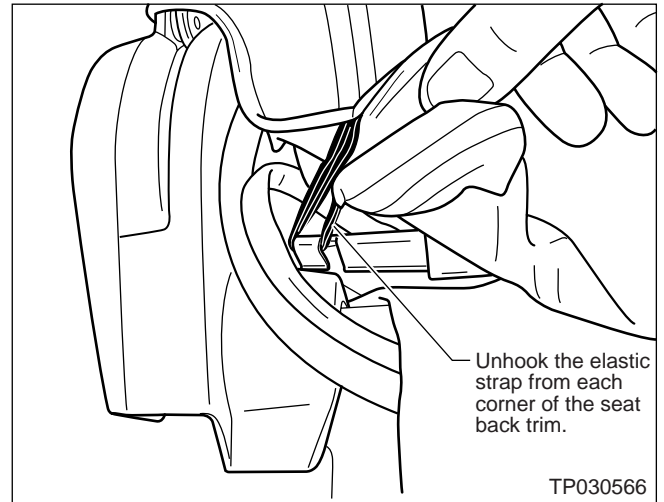

Figure 1
3. Unhook the elastic straps at the lower rear corners of the seat back (see Figure 1).